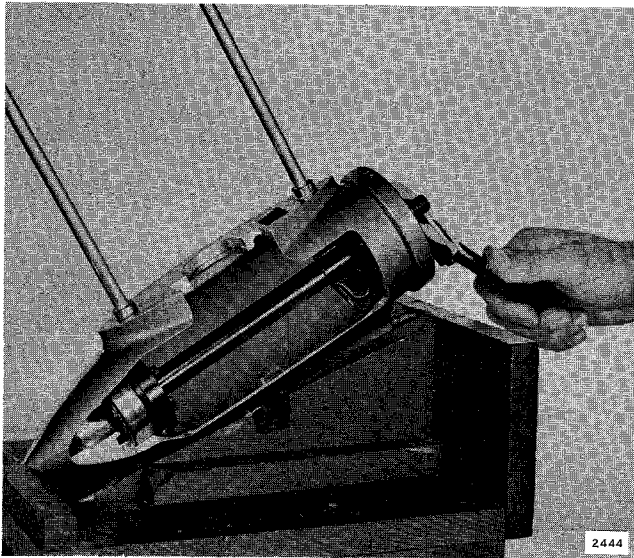

Figure 6-21. Pulling Forward Bearing Race
l. Remove from bearing race, using bearing puller kit (Special Tools #379843 and race puller #379649). See Figure 6-21.